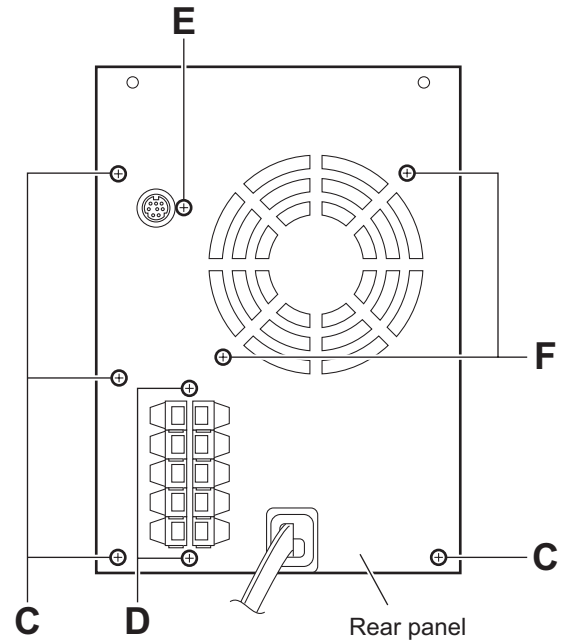

Fig.4
3.4.2 Removing the rear panel (See Figs.4 and 5)
- (1) From the back side of the amplifier assembly, remove the four screws **C**, two screws **D** and screw **E** attaching the rear panel. (See Fig.4)
3.4.3 Removing the fan motor (See Figs.4 and 5)
- (1) From the back side of the rear panel, remove the two screws **F** attaching the fan motor. (See Fig.4)